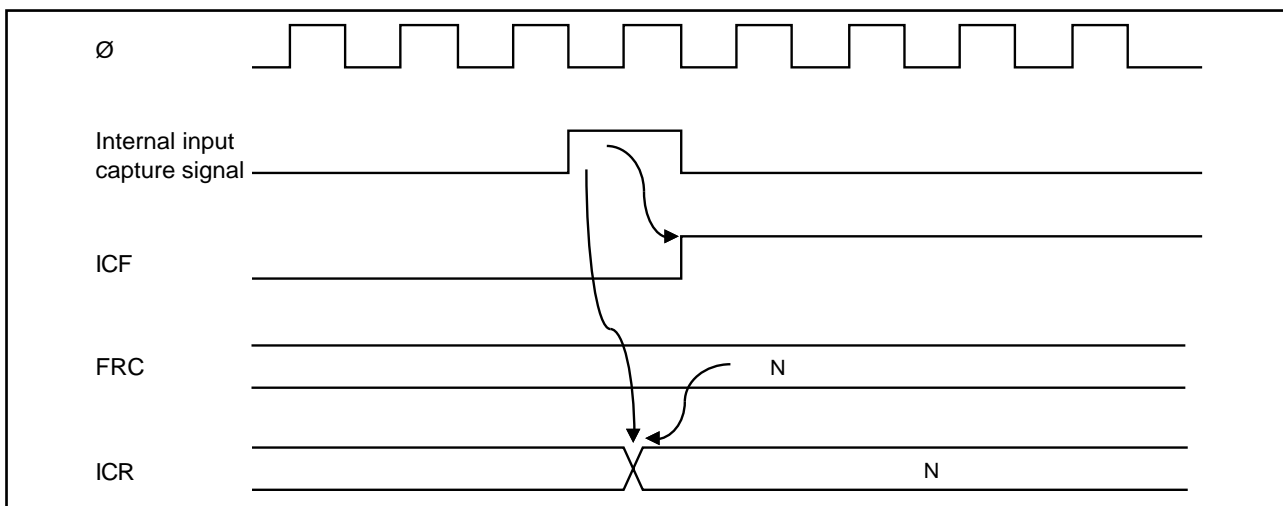

Figure 6-16. Setting of Input Capture Flag
(2) Timing of Input Capture Flag (ICF) Setting: The input capture flag ICF_x (x = A, B, C, D) is set to “1” by the internal input capture signal. Figure 6-16 shows the timing of this operation.